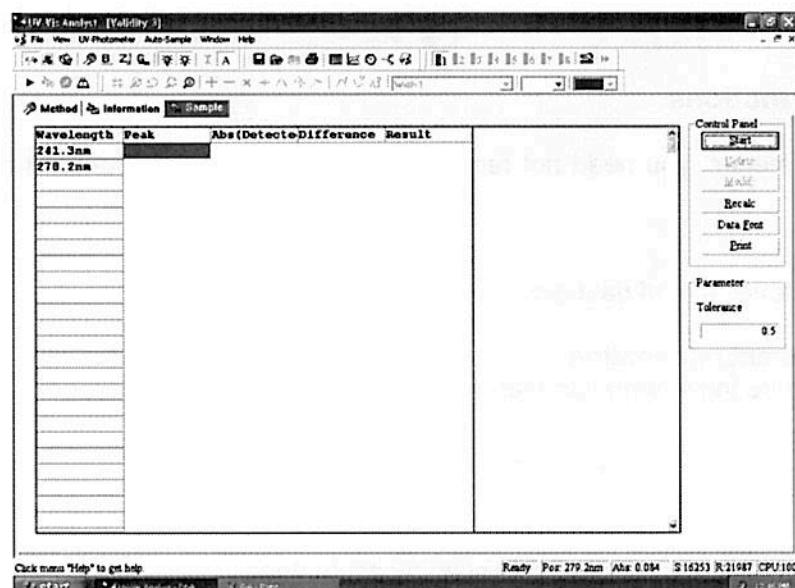

Fig. 5-6
5. Click the **Sample** tab. Appears following form (Fig. 5-6).